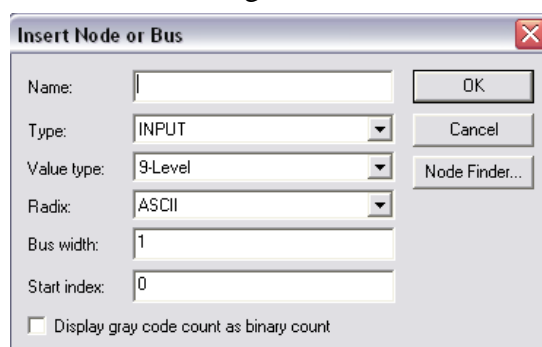
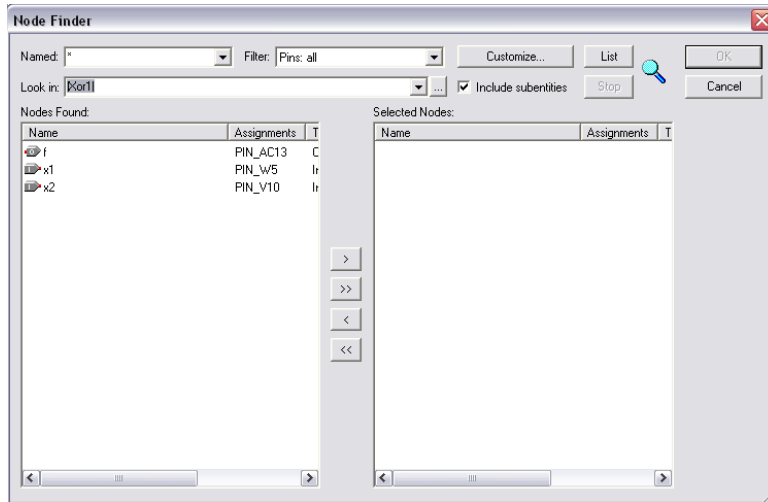
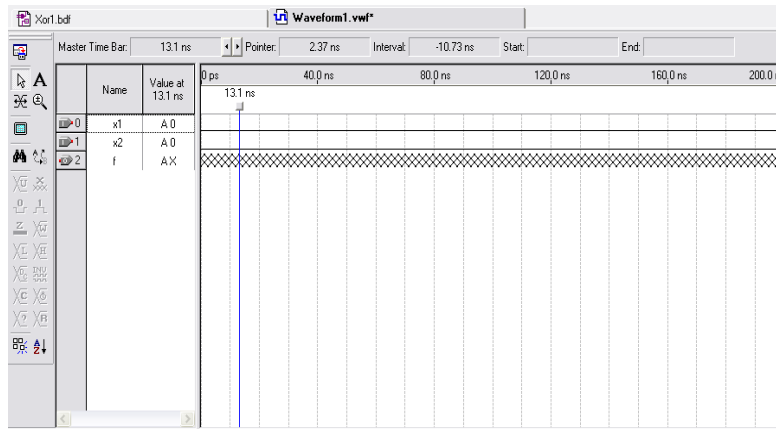

Figure 29. The Insert Node or Bus dialogue.
Figure 30. Selecting nodes to insert into the Waveform Editor.
Figure 31. The nodes needed for simulation.
3. Next, we want to include the input and output nodes of the circuit to be simulated. Click **Edit > Insert> Insert Node or Bus** to open the window in Figure 29.
It is possible to type the name of a signal (pin) into the Name box, but it is easier to click on the **Node Finder** button to open the window in Figure 30. The Node Finder utility has a filter used to indicate what type of nodes are to be found. Since we are interested in input and output pins, **set the filter to Pins: all. Click the List button** to find the input and output nodes as indicated on the left side of the figure.
Click on the x1 signal in the Nodes Found box in Figure 30, and then **click the > sign** to add it to the Selected Nodes box on the right side of the figure. Do the same for x2 and f. Click **OK** to close the Node Finder window, and then click **OK** in the window of Figure 29. This leaves a fully displayed Waveform Editor window, as shown in Figure 31. If you did not select the nodes in the same order as displayed in Figure 31, it is possible to rearrange them. To move a waveform up or down in the Waveform Editor window, click on the node name (in the Name column) and release the mouse button. The waveform is now highlighted to show the selection. Click again on the waveform and drag it up or down in the Waveform Editor.